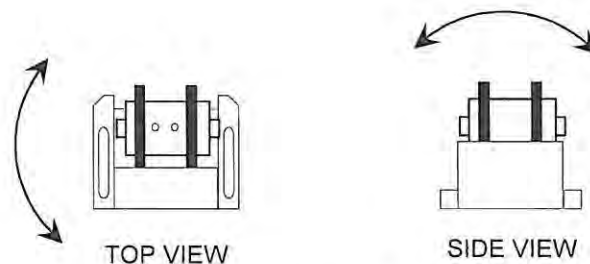

**Fig. 4.1 Use mirror #14 as a turning mirror for the pre-alignment of the regen cavity.**
- 9) Taking a separate 45 degree mirror (dielectric broadband, gold or silver coated)/mount. Position it such that the beam from the 1”x1” square mirror is turned 90 degrees, propagating along side the panel, towards the output end of the Legend-F as shown in Fig. .4.1.